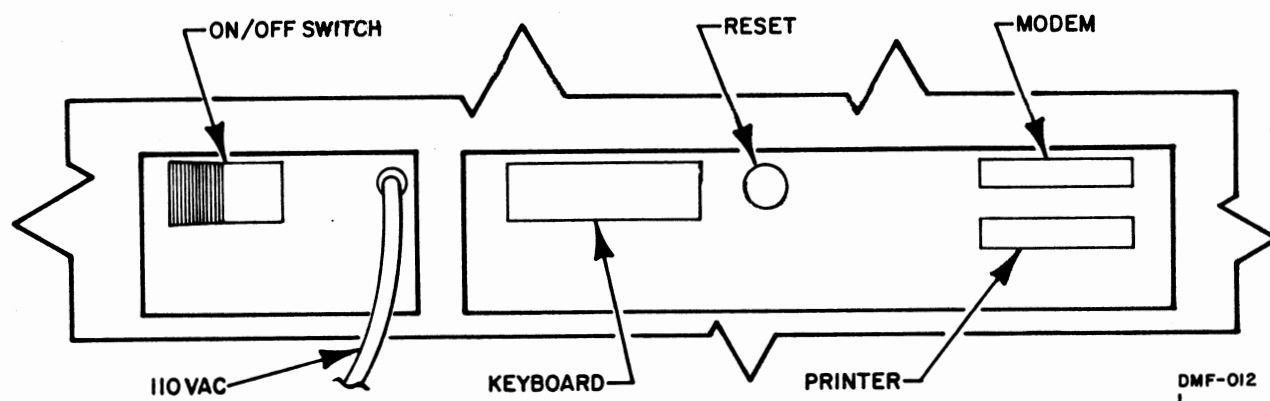

FIGURE 1-2. DATAMAC 800 AS VIEWED FROM THE REAR
- As you are facing the computer, reach around the left right until your hand is at the rear of the system. You should now be able to feel the ON/OFF switch (Ref. Fig. 1-2). Depress until it moves to the opposit direction.
- Upon applying power, the computer will perform a "self test" of its circuits to insure all are operational. Approximately four (4) seconds after power is applied, a beep will be heard. After the test is complete, the word READY followed by a small flashing rectangular indicator called a CURSOR will appear in the upper left corner of the display screen.
NOTE: The SYSTEM RESET button (Ref. Fig. 1-2) is a small RED button located at the rear of the system.